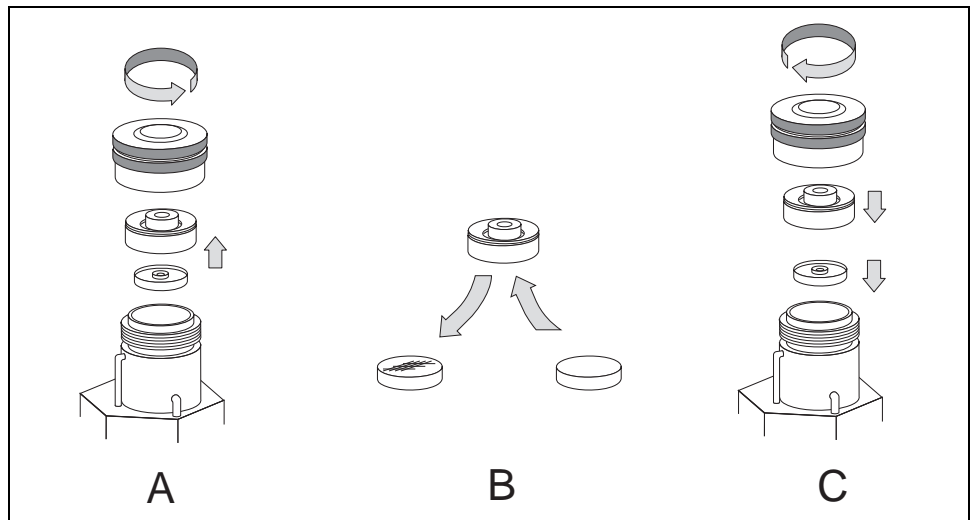

Figure 15-1. Replace the Septum
5. Remove the septum holder with septum, then the septum support. See A of Figure 15-1.
6. Remove the septum from the septum holder (use non-metallic tools). See B of Figure 15-1.
7. Insert a new septum into the septum holder paying attention that the center guide of the septum must be turned upward. See B of Figure 15-1.
9. Place the septum holder on the top of the septum support (see C of Figure 15-1).